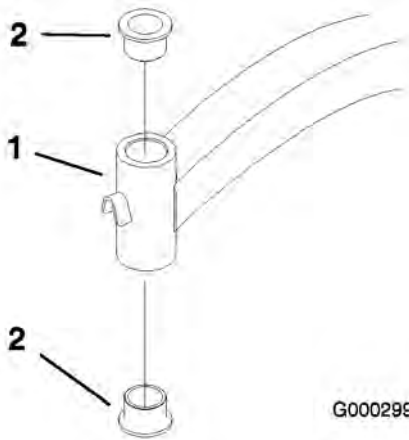

Figure 38
5. Insert a pin punch into the mounting tube and carefully drive out the bushings (Figure 38). Clean the inside of the mounting tube.